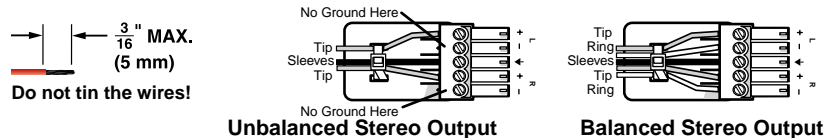

Figure 8. Captive Screw Connector Wiring for Audio Output
- ⑤ **Audio output connectors** — Connect audio devices, such as an audio amplifier or powered speakers, to these two 3.5 mm, 5-pole captive screw connectors. The connectors output the selected unamplified, line level audio. See figure 8 to properly wire an output connector.